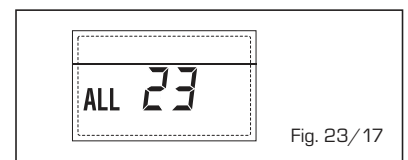

Fig. 23/17
- **ANOMALÍA SONDA DEL COLECTOR SOLAR (S1) "ALL 24" (fig. 23/18)**